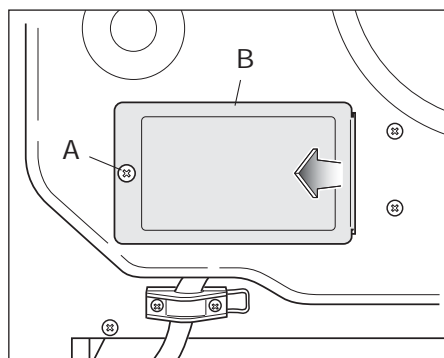

Fig. 1.1
- Unscrew the screw A securing the cover plate B behind the oven (fig. 1.1).